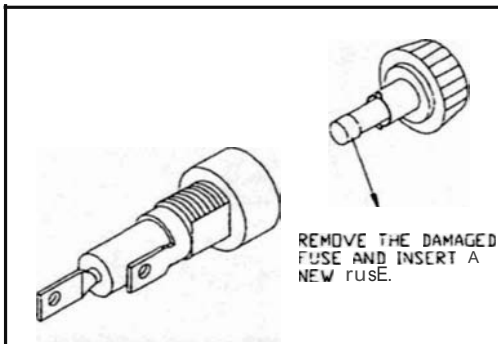

Fig.3
3. Remove the damaged fuse and insert a new one.(see Fig.3)